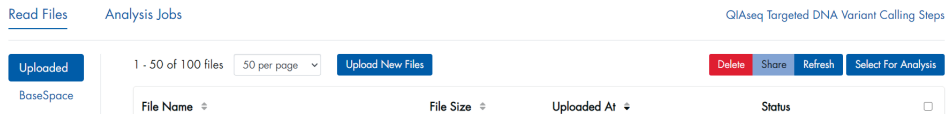

Figure 11. File Upload tab of the QIAseq Targeted DNA Pro Data Analysis Pipeline.
- In the **Read Files** tab, select **Uploaded** > **Upload New Files** to upload files from your local drive (Figure 11).